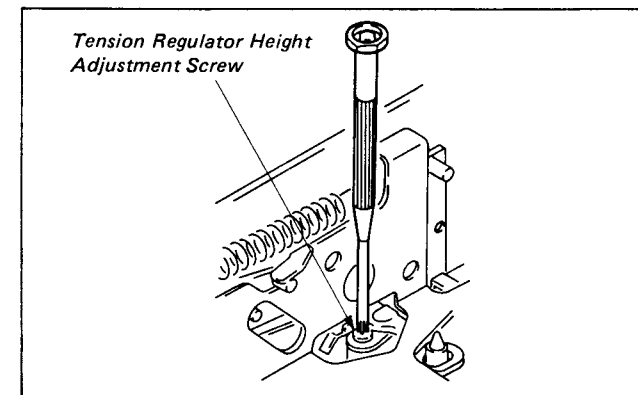

Fig. 1-75
Note: Do not touch the No. 2 guide gate screw ② since it has been preset at the factory. If off standard, adjust the height adjustment screw of the No. 1 guide (tension regulator assembly) by turning it clockwise 90° at a time. (See Fig. 1-75.)
Rotate No. 1 guide (tension regulator height adjusting screw) and No. 2 guide gate screw 90° counterclockwise to recheck. (See Fig. 1-75.)